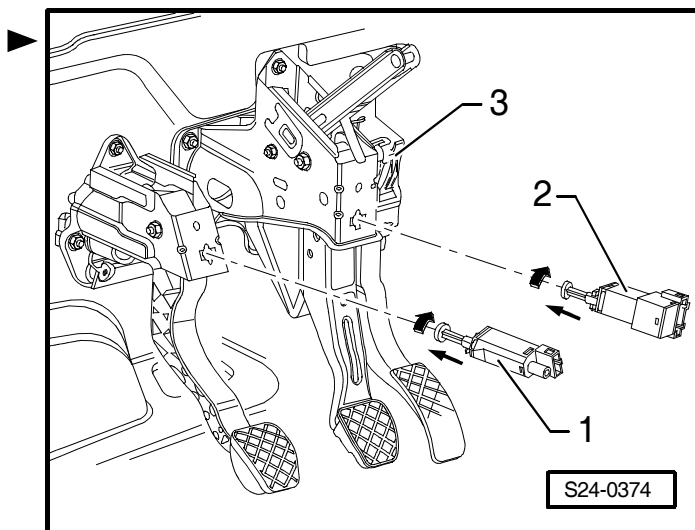

Fig. 2: Resistance of coolant temperature sender -G62- and of intake manifold temperature sender -G72-
- ☐ Specified resistance ⇒ Fig. 2 in **23-1** page 3
- ❑ specified resistance for intake manifold temperature sender -G72- ⇒ Fig. 2 in **23-1** page 3